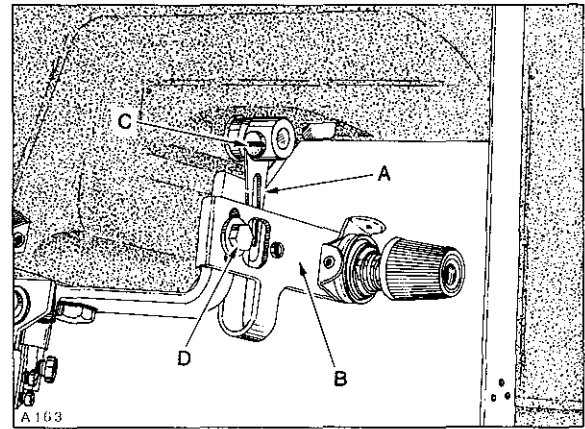

Fig. 33
Spreader thread take-up (A, Fig. 33) should be centered (left to right) between eyelet inserts in tension bracket (B). It should also be positioned to travel approximately equal distance (front to rear) of eyelets. Adjustment can be made by loosening screw (C), reposition take-up (A) as required and retighten screw (C) securely.